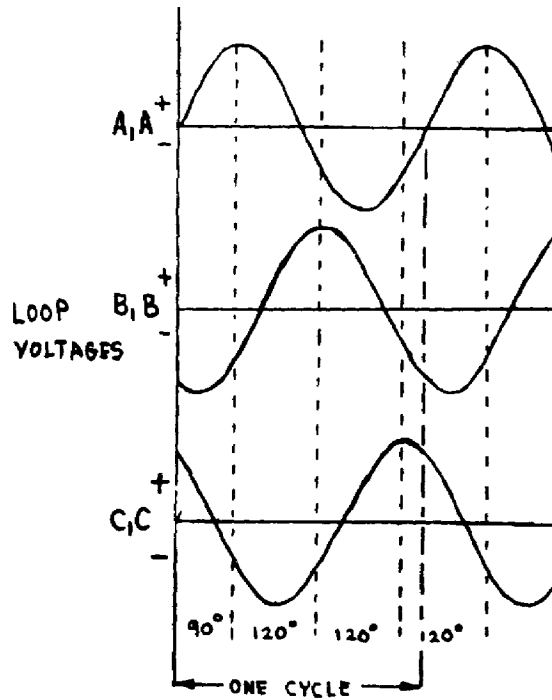

Figure 24. Three-phase loop voltage.
b. With the S pole of the rotor directly under the A conductor the voltage at A will be maximum in magnitude and positive in polarity. After the rotor has turned through 120° , the S pole will be directly under the B conductor and the voltage at B will be maximum positive. Similarly, 120° later, the voltage at C will be maximum positive. This means that the peak positive voltages at A, B, and C in each loop of wire occur 120° apart. These loop voltage curves are shown in figure 24.